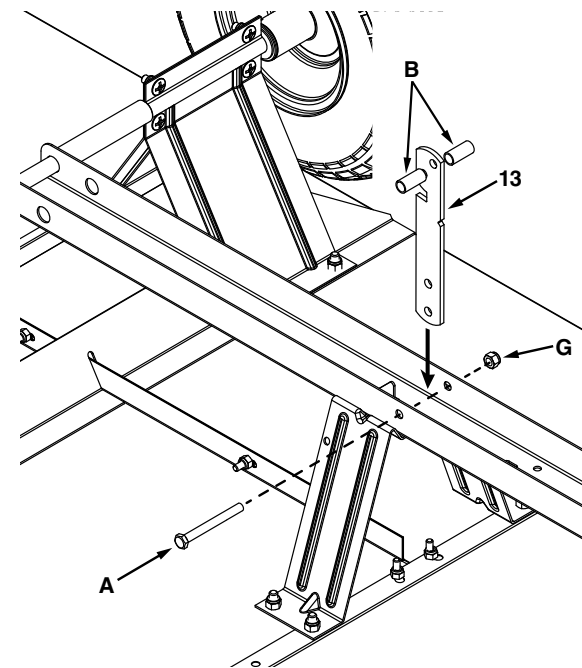

Figure 15
STEP 16 (SEE FIGURE 15): Install the latch lock lever (13) by inserting a 5/16" x 3" hex bolt (A) through one side of the draw bar tongue (15), a spacer (B), the latch lock lever (13) a spacer (B), the other side of the draw bar tongue (15), and a 5/16" nylock nut (G) as shown in figure 15.